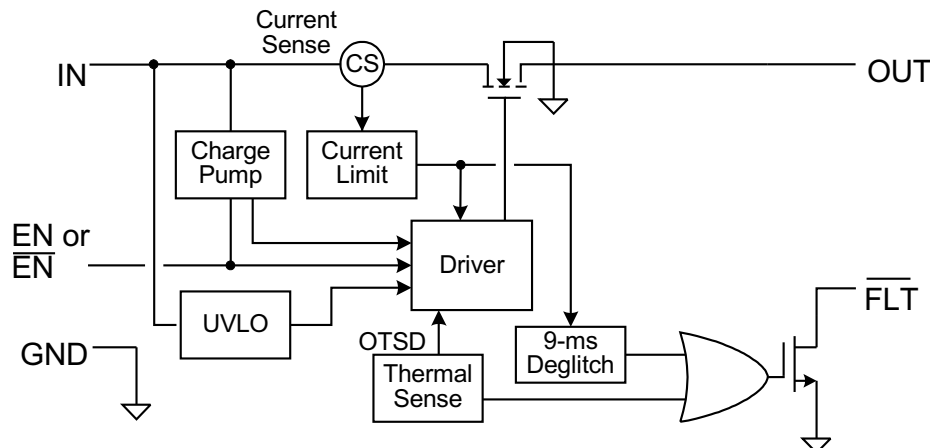

**Figure 7. Output Characteristic Showing Current Limit**
| $t_{\text{IOS}}$ Short-circuit response time (3) | $V_{\text{IN}} = 5\text{ V}$ (see Figure 7),One-half full load $\rightarrow R_{\text{SHORT}} = 50\text{ m}\Omega$ ,Measure from application to when current falls below 120% of final value |          | 2    |     | $\mu\text{s}$      |